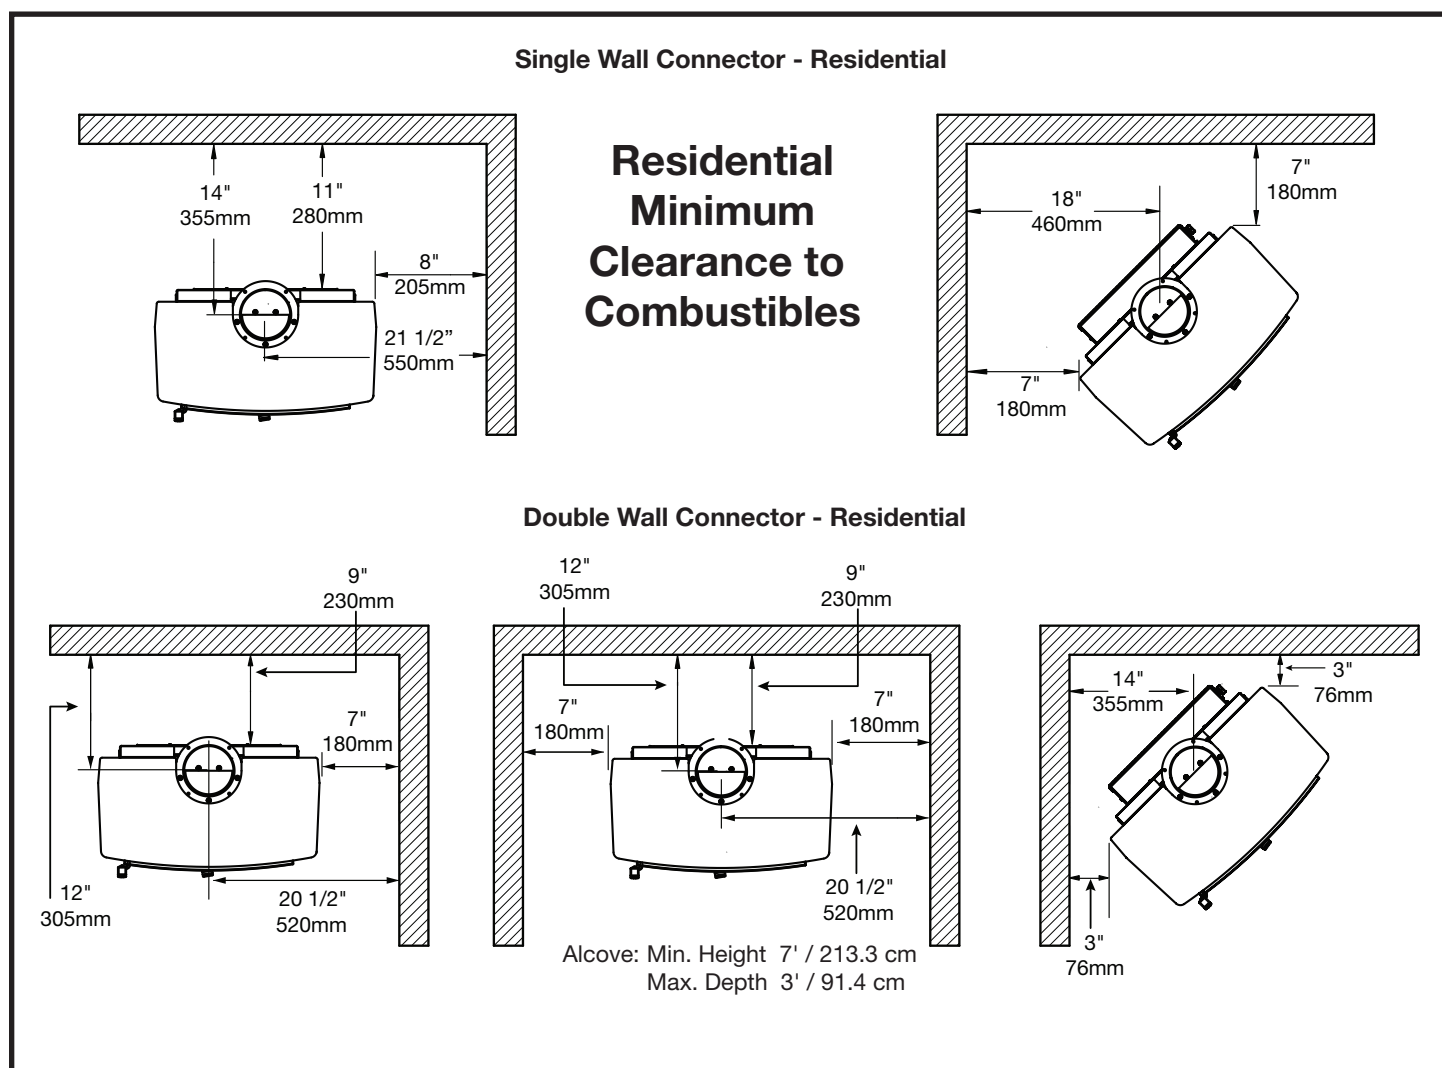

Figure 7: Residential clearances.
3. Alternately, for close clearances, use a listed double-wall connector. See "Figure 7" on page 15.